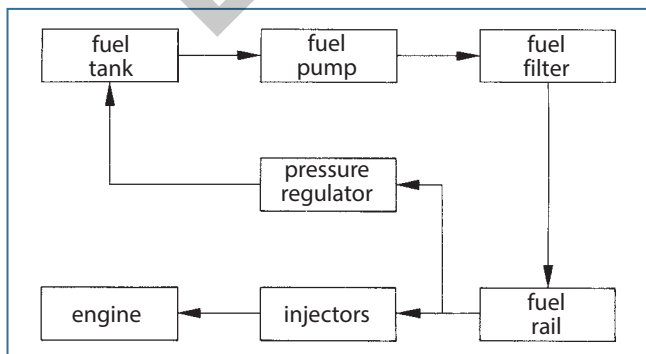

Figure 8.5 A block diagram that shows the flow of fuel in the fuel system
- 7 *Block diagrams.* Block diagrams are used to show the relationship of parts of a system. The actual parts are not drawn to shape, but rectangles (blocks) are used to represent the parts (Figure 8.5 is an example).